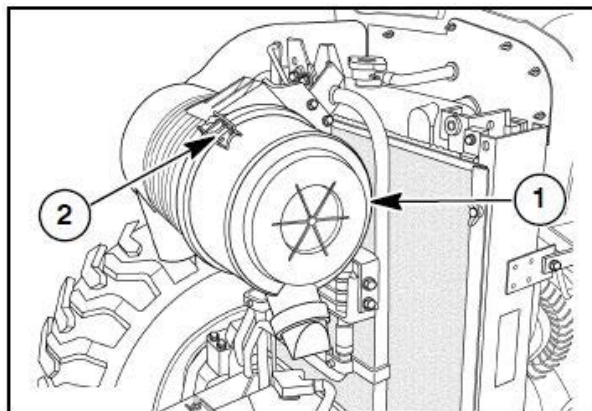

Figure 3-12
The air cleaner (1) in Figure 3-12, is accessed by opening the tractor hood.
To remove the primary element, release the clips (2) in Figure 3-12, on the end cap.